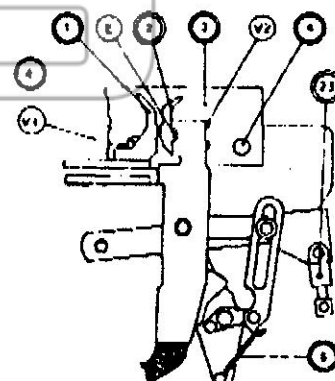

Fig. 6
3. Poles (Fig. 6)
Close breaker and check gap setting of arcing horns. If gap exceeds 1.5mm (0.059 inches), adjust contacts by loosening bolt #VI (Fig. 6) setting g to 0.9mm \pm 0.1mm (0.035 \pm 0.004 inches) and tightening bolt by torquing to 0.8mm-kG. (5.8 ft.). Remove both fixed and movable arcing horns along with insulating barriers when thickness of arcing pads erodes to approximately 0.5mm (0.020 inches).